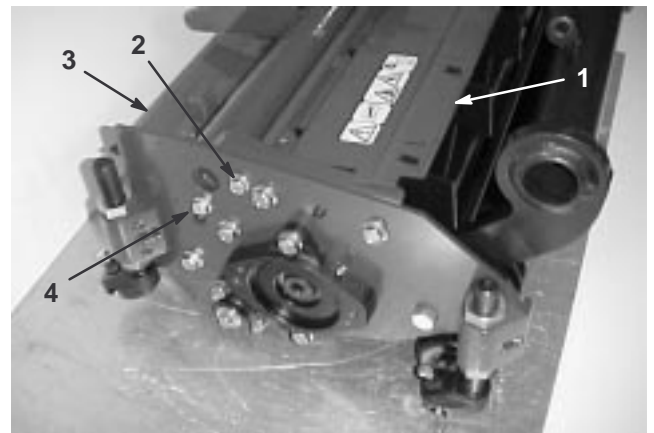

Figure 1
2. Loosen flange head capscrew securing shield to right side plate. Move shield to desired angle and tighten screw (Fig. 1).
1. To open rear shield (Fig. 1), loosen flange head capscrew securing shield to right side plate, rotate shield to open position and tighten capscrew.